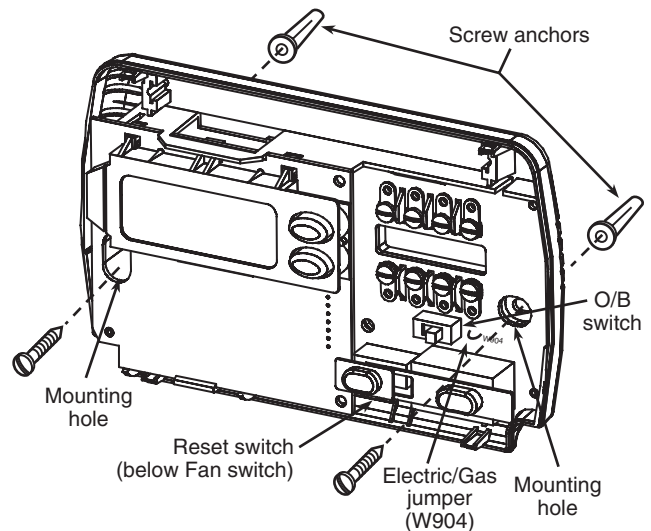

Figure 1. Thermostat Base
5. Fasten base loosely to wall, as shown in fig. 1, using two mounting screws. Place a level against bottom of base, adjust until level, and then tighten screws. (Leveling is for appearance only and will not affect thermostat operation.) If you are using existing mounting holes, or if holes drilled are too large and do not allow you to tighten base snugly, use plastic screw anchors to secure subbase.
If your emergency or auxiliary system will energize the blower, then jumper, W904, on the thermostat base must be cut (see fig. 1).
If a voltage spike or static discharge blanks out the display or causes erratic thermostat operation you can reset the thermostat by pressing the reset button (see fig.1) . If the thermostat has power, has been reset and still does not function correctly contact your heating/cooling service person or place of purchase.